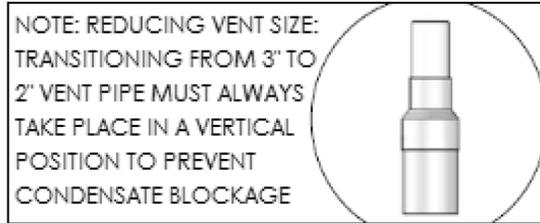

Figure 18 - Transitioning from 3" to 2" Vent Pipe
4. For 2" installations, install the reducing coupling in a vertical section of pipe. At least a 6" length of 3" pipe MUST BE INSTALLED before reducing to 2". See Figure 18.